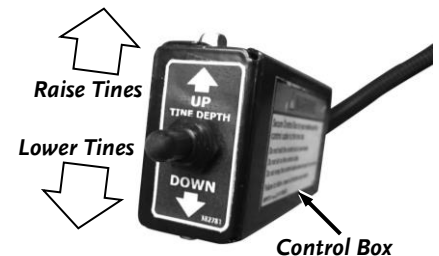

Figure 17
- Push the Toggle Switch to the Up position and hold. When you release the Switch, it will return to center (OFF) position (**Figure 17**).
- Push the Toggle Switch to the Down position and hold. When you release the Switch, it will return to center (OFF) position (**Figure 17**).